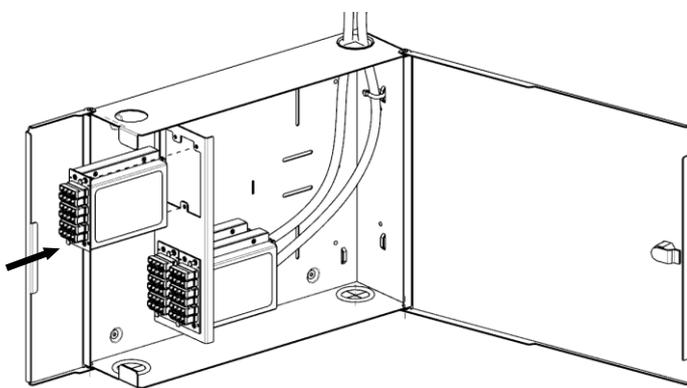

Fig.5
- Place Modlink/ Modular splice cassette into the Face plate as shown (Fig.5 &6). loaded face plate place into the enclosure, (Note: Modlink/Modular splice cassette need to be ordered separately).